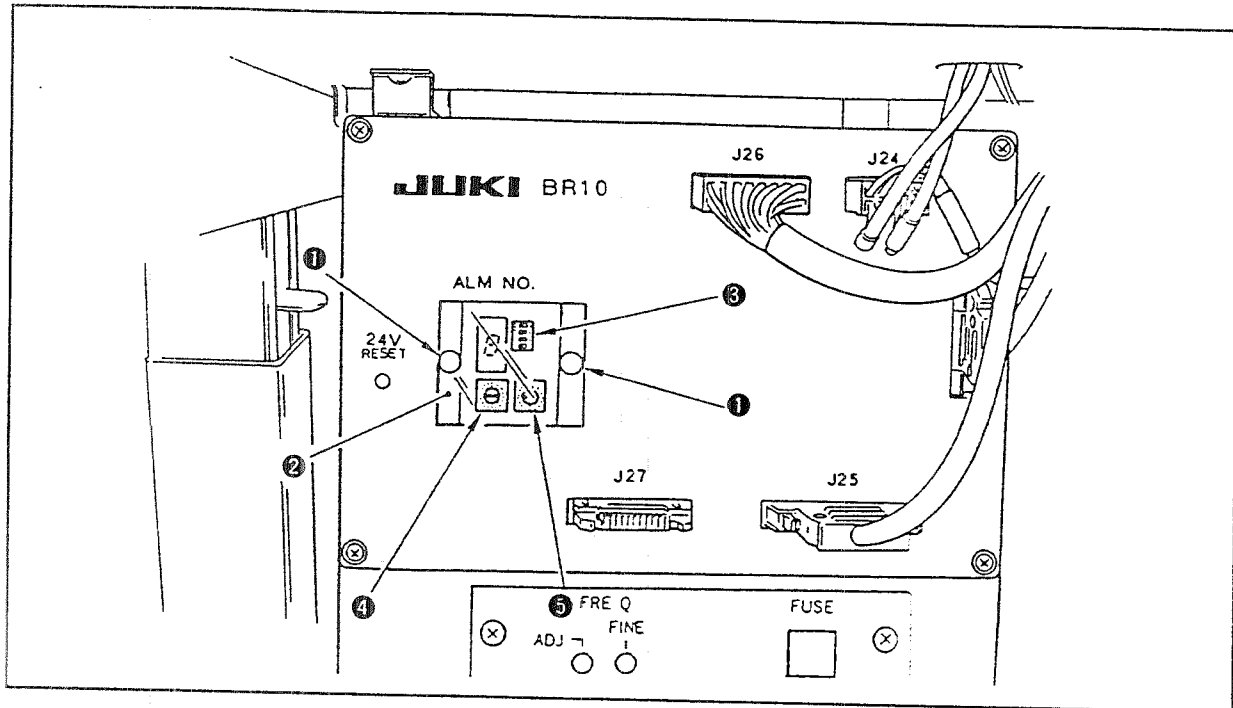

Fig. 4-1
Loosen two screws ① and open panel ② in Fig. 4-1. Now, change the setting of the switches.